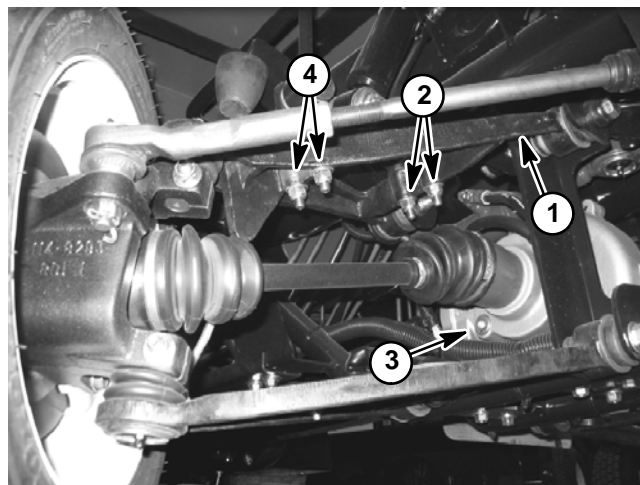

Figure 9
6. Remove four (4) flange head screws (item 4) that secure the differential to the frame.
7. On right side (passenger side) of vehicle, remove inner two (2) flange head screws and flange nuts that secure control arm tower to upper control arm (Fig. 9). Removal of these two (2) fasteners allows clearance for differential removal. To prevent unexpected front suspension movement, **do not** loosen outer flange head screws and flange nuts.
2. Secure differential to the frame with four (4) flange head screws (item 4).
3. Install and tighten inner two (2) flange head screws and flange nuts that secure control arm tower to upper control arm (Fig. 9).